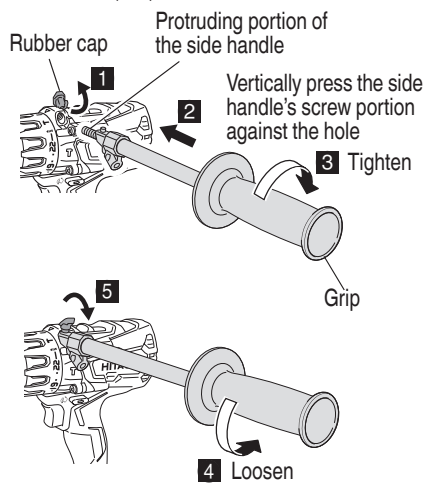

Fig. 12
3. Installing/Removing the side handle. (Fig. 12)